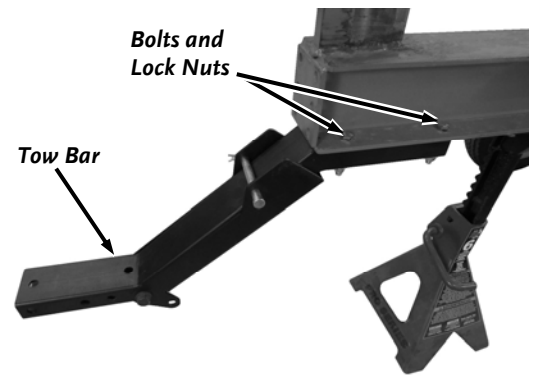

Figure 4
4. Install the Tow Bar to the end of the Beam with four 3/8-16 X 2.5 Bolts and Lock Nuts (from the product package) using two 9/16" Wrenches (**Figure 4**).